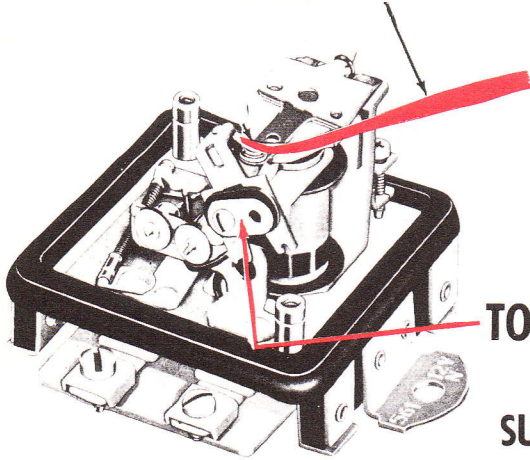

Figure 40
1. If an open transistor was found in the previous check, the large voltage regulator contact must be cleaned with a **spoon or riffer file as illustrated in Figure 40.**